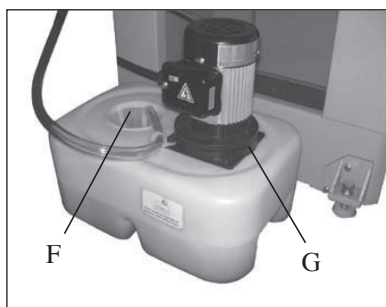

Fig. 13
Cleaning is required when iron filling clog the screen (F, Fig.13) on the tank.
1. Remove the pump by loosening the 4 screws (G, Fig.13) at the 4 corner of pump bottom.
2. Remove and clean the net (F, Fig.13) on the tank.